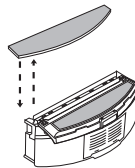

Fig. 11
1. Pull the mop pad off the velcro mop base. Wash them in your washing machine. Dry them. Stick the mop pad back onto the velcro mop base (Fig. 11).